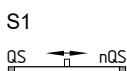

Fig. 4
Time setting (see Fig. 4 and 5)
- The DIP switches are located underneath the front cover of the safety-relay module (see Fig. 4 and 5).
Setting the switch (see Fig. 4)